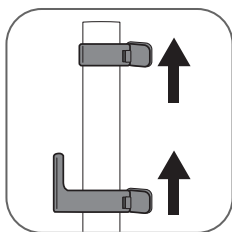
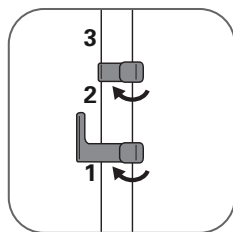

fig. 5
fig. 6
5. Adjust the pole to its maximum height by sliding it upwards (fig. 5) then locking the 2 clips. (fig. 6). Make sure the 3 segments of the pole are fully extended.